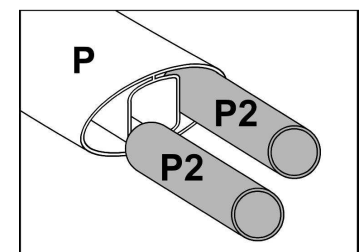

fig. 24
11. INSTALLATION OF THE PLASTIC PROFILES (P)
1- The plastic profiles (P) are linked together by the connecting pipes (P2). Take a profile and insert two connecting tubes (P2) by the end of the profile. Enter the tubes half way. Take another profile and press the 2 profiles strongly (fig. 24)